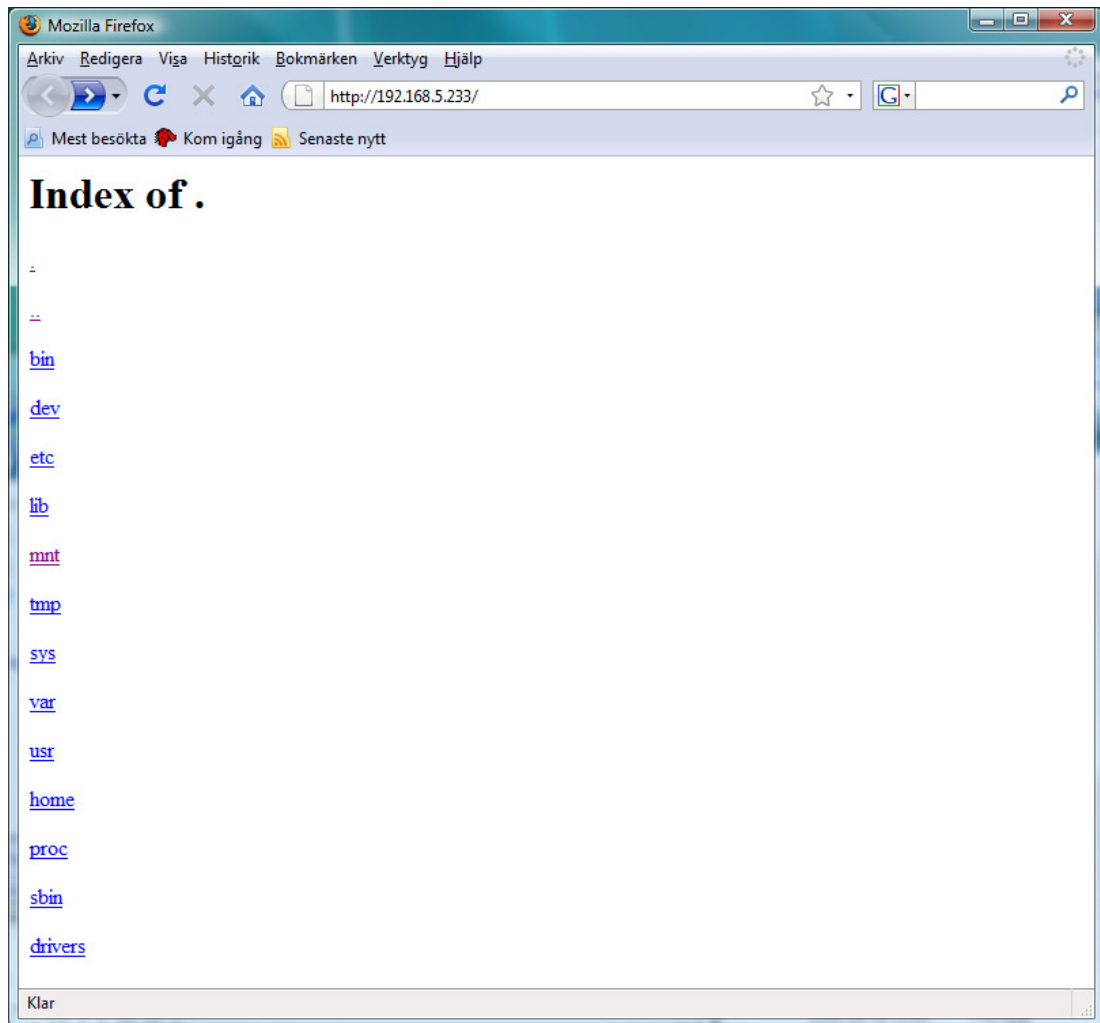

Figure 43 The root file system listed in web browser
2. Now start a web browser and enter the IP address in the web browser's address field. The web server is configured to have its directory, i.e., look for content in `/home/httpd`, but if that directory doesn't exist it will show the content of the root of the file system, see Figure 43.